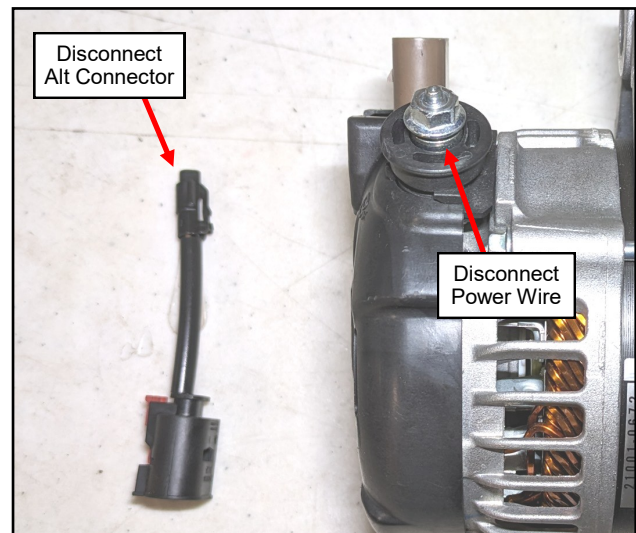

Fig. 2.12 (Disconnect Wires from Alternator)
2.12 Disconnect both the alternator power wire and 2-pin connector from the back of the alternator per fig 2.12.